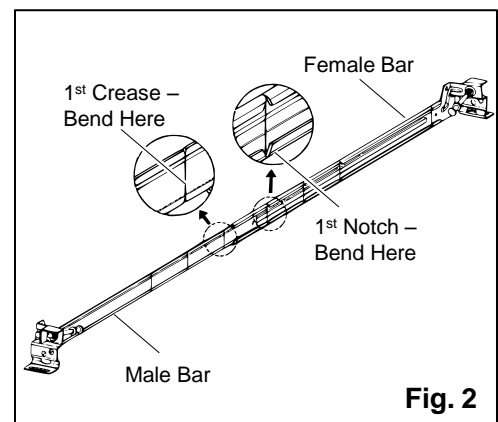

Fig. 2
2. Spread the bars as wide as possible. (FIG. 2)
3. For each hanger bar, bend the male bar, back and forth at the 1st crease from the center until it splits. Bend the female bar, back and forth, at the 1st notch from the center until it splits. (FIG. 2)